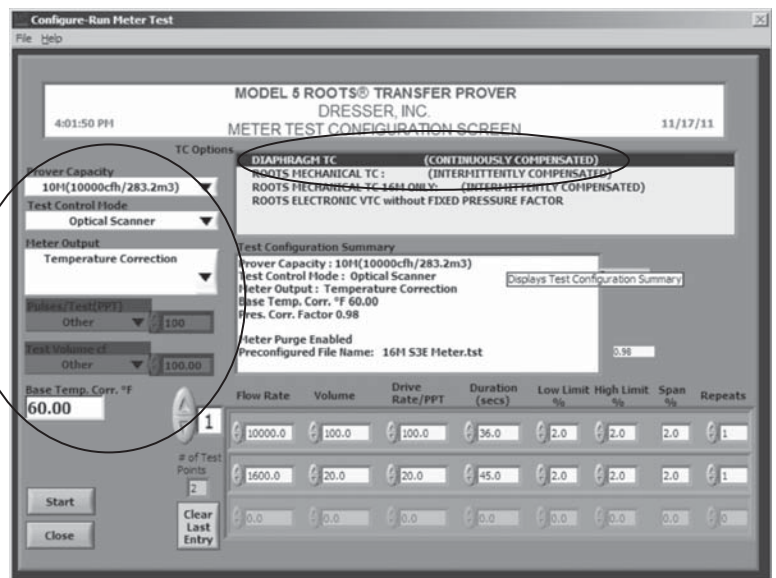

Figure 9 - Prover Configurations screen for Model 5 Prover software
The Model 5 Prover software must be set up as circled on the left side of the screen shot as shown in Figure 9. The TC options box must also be set for Diaphragm TC for all meter sizes, as circled in Figure 9. For reference, the values for the prover configuration are explained in Section 6.
- **Flow Rate:** To add additional test points, enter the desired flow rate in the next available box in the “Flow Rate” column. Figure 9 shows a value of “1600” representing 10% of flow for a 16M meter.
- **Volume:** Enter the desired test volume. Suggested values are provided in Table 1. A value of “20” is shown in Figure 9 representing the recommended test volume for testing a 16M meter at 10% of maximum flow rate